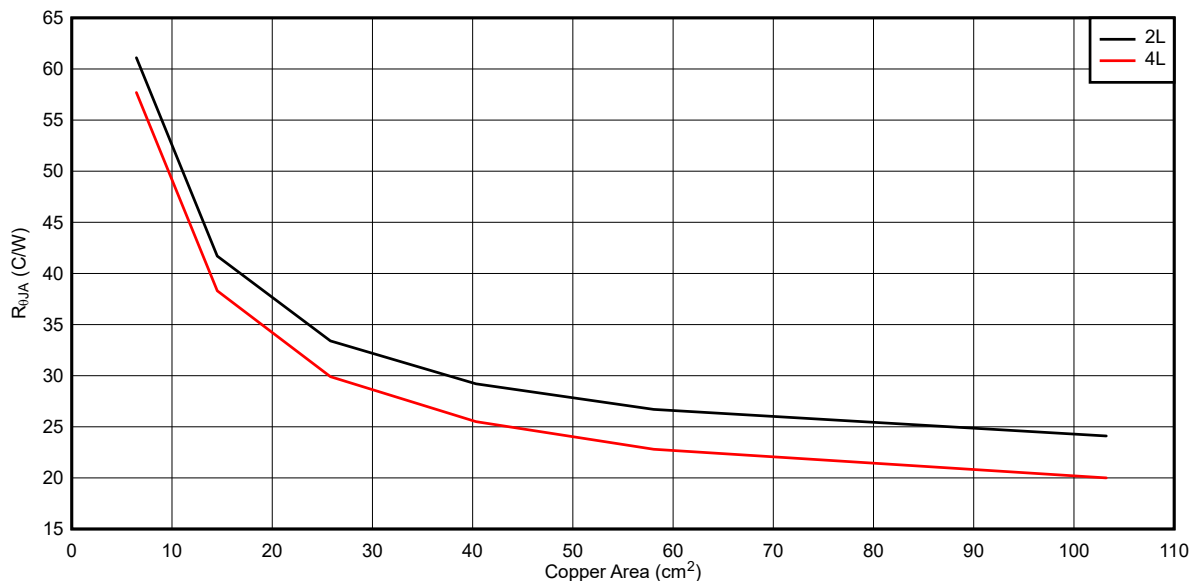

图 9-15. Typical $R_{\theta JA}$ vs Copper Area
The LM5012-Q1 features a die attach paddle, or "thermal pad" (EP), to provide a place to solder down to the PCB heat-sinking copper. This provides a good heat conduction path from the regulator junction to the heat sink and must be properly soldered to the PCB heat sink copper. Typical examples of can be found in Figure 9-15. The copper area given in the graph is for each layer. The top and bottom layers are 2-oz copper each, while the inner layers are 1 oz. Remember that the data given in the graph is for illustration purposes only, and the actual performance in any given application depends on all of the previously mentioned factors.
dissipation of 1.54 W. With this information, the user can calculate the required $R_{\Theta JA}$ of about 30°C/W. Based on Figure 9-15, the required copper area is about 40 cm², for a two-layer PCB.